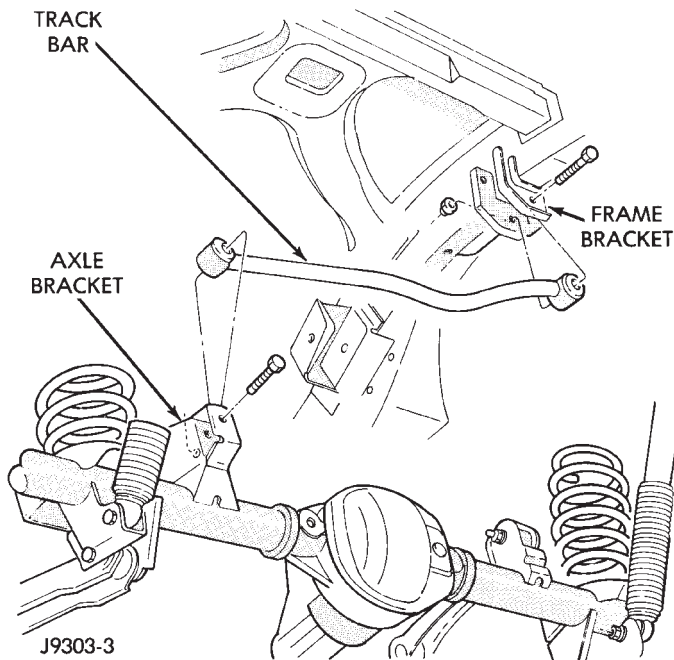

Fig. 1 Rear Track Bar
- (1) Raise and support the vehicle.
- (2) Remove the bolt and nut from the frame rail bracket (Fig. 1).
- (3) Remove the bolt from the axle tube bracket (Fig. 1). Remove the track bar.
- (1) Install the track bar to the axle bracket and install the bolt (Fig. 1).
- (2) It may be necessary to pry the axle assembly over to install the track bar. Install the track bar to the frame rail bracket. Loosely install the bolt and flag nut (Fig. 1).
- (3) Remove the supports and lower the vehicle.
- (4) Tighten the bolt at the axle shaft tube bracket to 100 N•m (74 ft. lbs.) torque.
- (5) Tighten the nut at the frame rail to 100 N•m (74 ft. lbs.) torque.